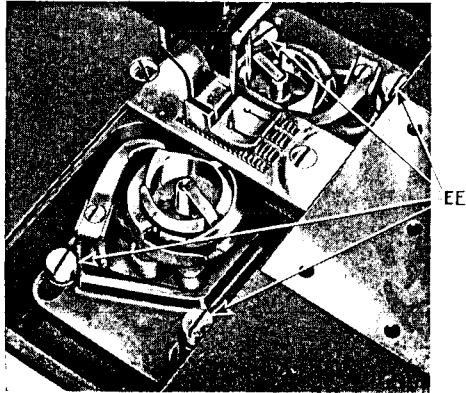

Fig. 25. Adjustment of Hook Saddles
Turn the balance wheel over toward you until the points of the sewing hooks are at the centre of the needles. Loosen the four screws (EE, Fig. 25) in the bed of the machine, and move the hook saddles to the right or left, as may be required, until the points of the hooks are as close to the needles as possible without striking them, then securely tighten the four screws (EE).